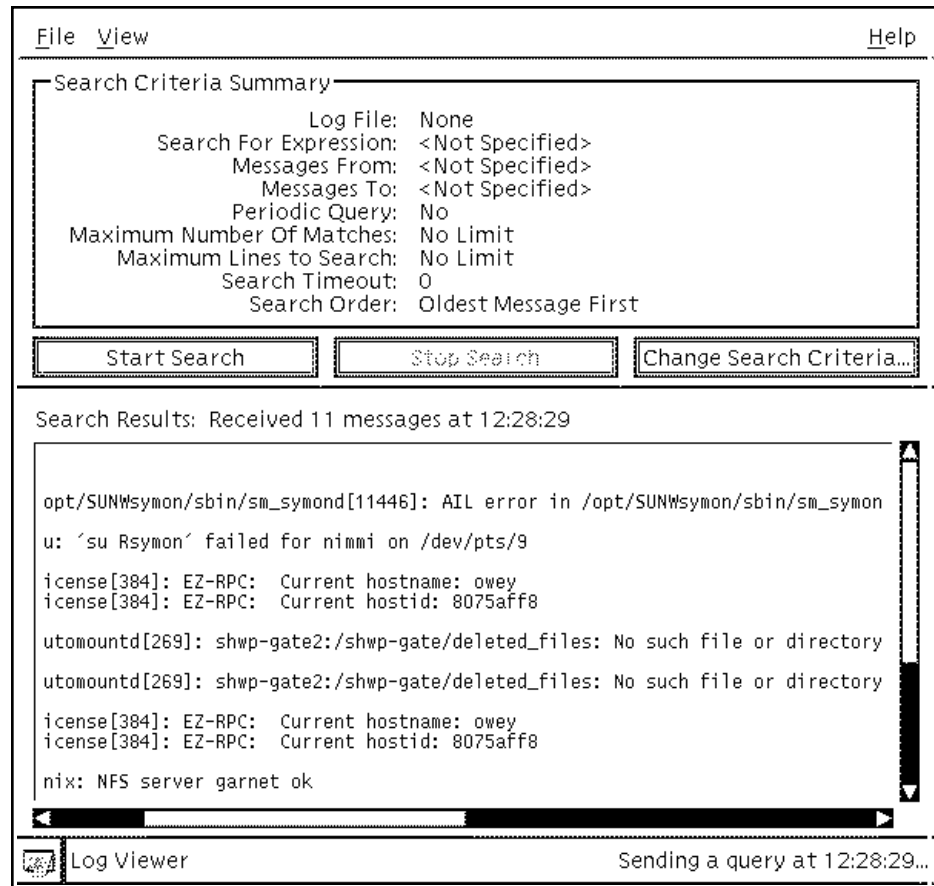

FIGURE 3-21 Log File Viewer Window
- **To display the Log Viewer console, open the Log Viewer console as shown in FIGURE 3-21.**
The Search Results window is empty until you specify the search criteria in the Search for Expression entry (see FIGURE 3-21) and initiate the search. You can specify your own Search Criteria, retrieve and use a stored Search Criteria, or retrieve and modify a stored Search Criteria. Log entries retrieved by a search include the items listed in TABLE 3-7.
- **To initiate a search, select the Start Search button from the Log File Viewer window (FIGURE 3-21).**
- 1. Select the Change Search Criteria button in the Log File Viewer window (FIGURE 3-21).**